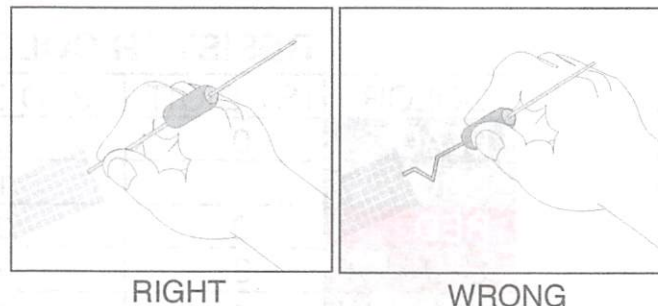

FIG. 2 - How to insert a component into the universal breadboard.
- When inserting components into the universal breadboard, be sure to grasp the component near the end of the lead. If you hold the component itself when inserting it, you will probably bend and may even break the lead making it useless (See Fig.2).